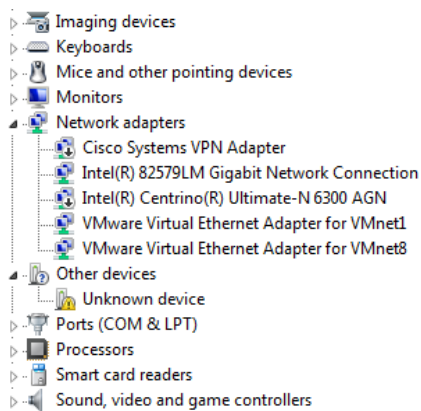

Figure 18: Unknown device in Other devices
- c. If **Unknown device** appears in **Other devices** (see Figure 18), right-click **Unknown device**, and then select **Update Driver**.
- p. Click **Advanced** (see Figure 18).